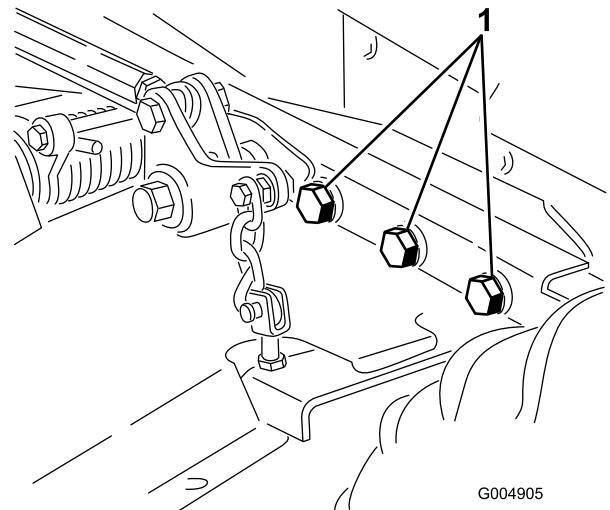

Figure 81
4. Check all fasteners for looseness and tighten them as necessary. Especially torque the 6 bolts securing the mower deck frame to the traction unit (Figure 81) to 265 ft-lb (359 N·m).